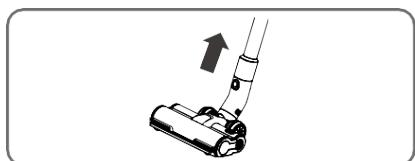

Figure 4
- If you want to remove the brush, the brush is held in one hand, and the button is pressed by the other hand simultaneously, and the brush will be pulled out. (Figure 4)